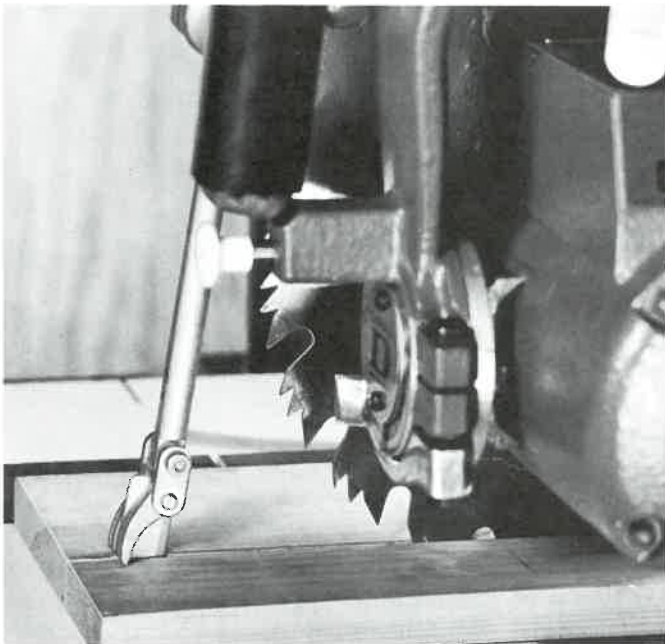

Fig. 3-15. The splitter and anti-kickback fingers should be properly adjusted when ripping on the radial arm saw.
10. When ripping, always feed stock into the blade so that the bottom teeth are turning toward you. This will be the side opposite the anti-kickback fingers, Fig. 3-15.